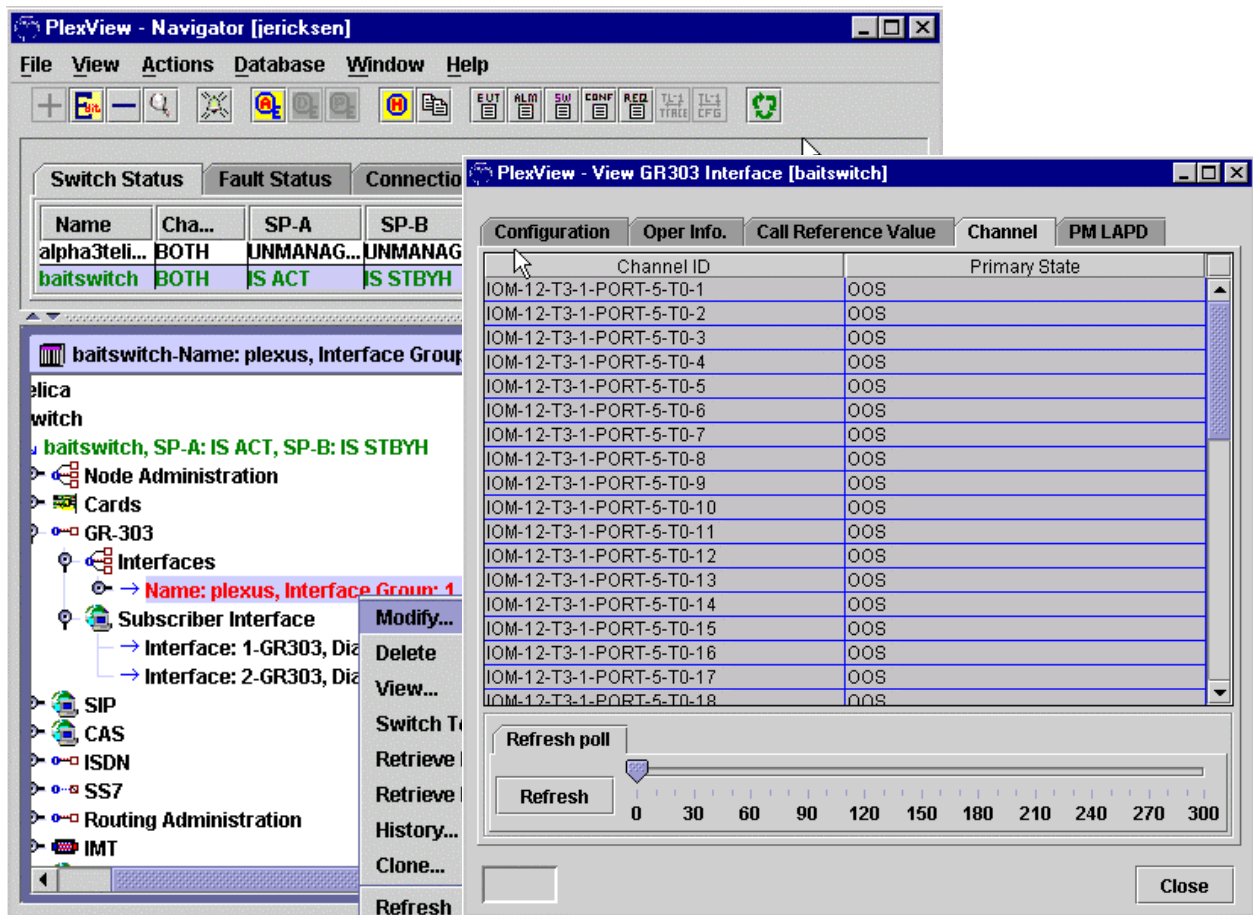

Figure 2. GR303 Channel Status
9. Retrieve the channel and state associated with a GR-303 Call Reference Value (subscriber line) by double-clicking the switch, *GR303* and *Interfaces*. Right-click the *interface*, click *View* and then select the *Oper. Info* tab. See Figure 2. Reference **DLP-643** for detailed information for the command.